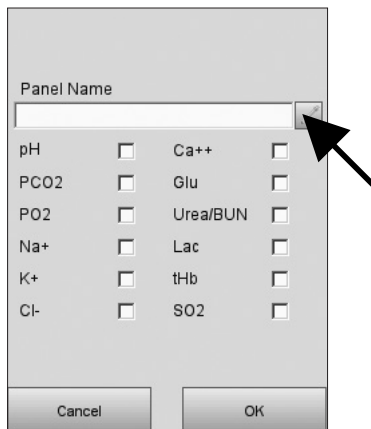

Fig. 3-26 Select Parameters
6. In the subsequent screen (Fig. 3-26), press  and enter a name for the test panel. Select the parameters to be included in the panel.